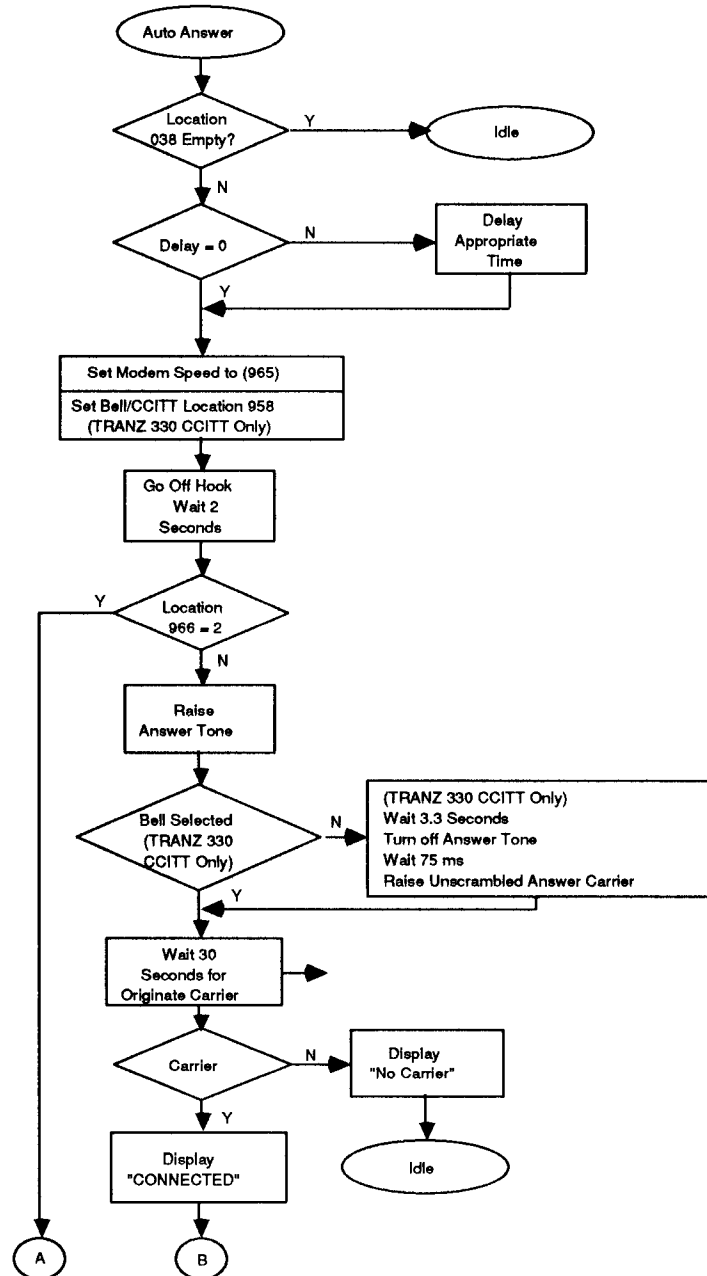

Figure 2-6. PNC 330, TRANZ 330 Auto Answer Routine (for firmware 2.1 or greater) and TRANZ 380, Part 1
- The auto answer function. See Figure 2-4, "Dial Terminal Auto Answer (for TRANZ 330 versions prior to 2.1)", and Figures 2-6 and 2-7 "TRANZ 330 Auto Answer Routine (for firmware 2.1 or greater) and TRANZ 380. If the terminal receives an incoming ring, the terminal goes to the auto answer function. This is only supported in TRANZ 330/380 versions.